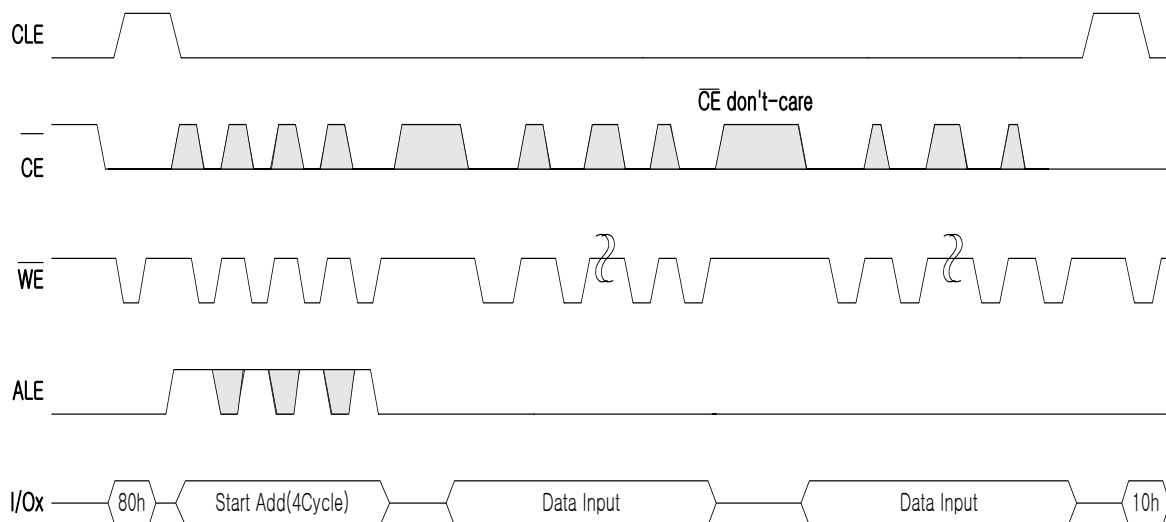

Figure 32. Program Operation with $\overline{\text{CE}}$ don't-care.
Note: (1). The time to Ready depends on the value of the pull-up resistor tied to the Ready/Busy pin. See Figures 32, 33 and 34.
Figures 32, 33 and 34 show the electrical characteristics for the Ready/Busy signal. The value required for the resistor R_p can be calculated using the following equation: